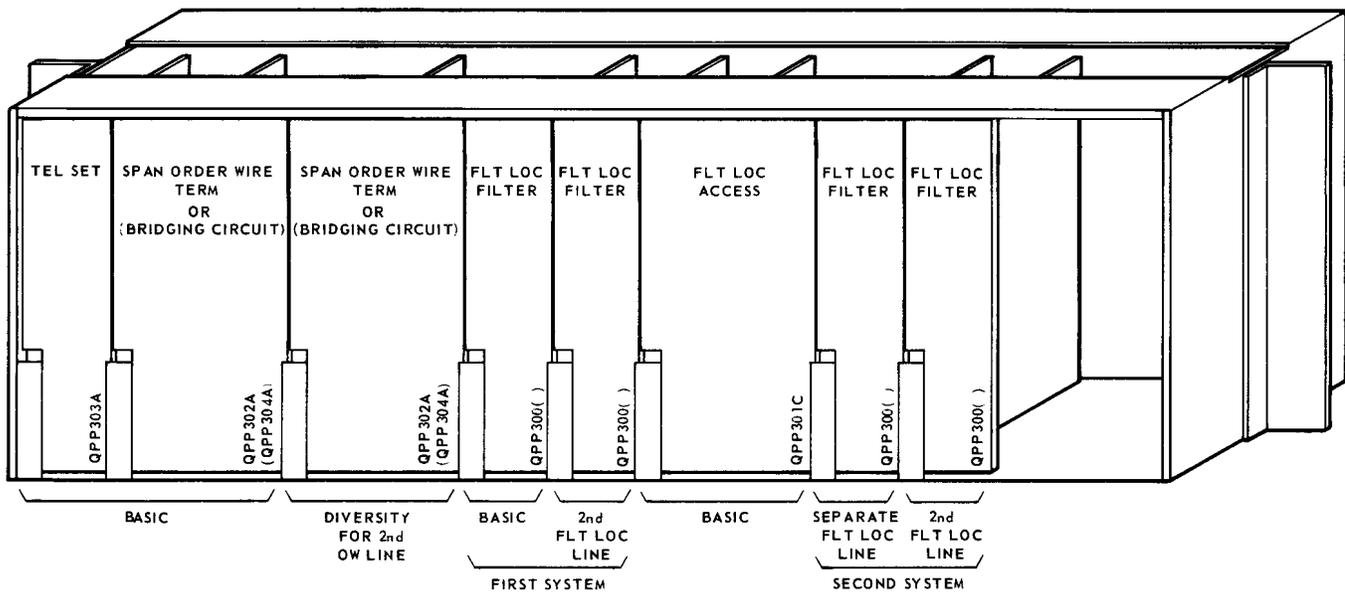

Fig. 1 – Order-Wire and Fault-Locate Shelf Layout
2.01 The shelf (Fig. 1) is 19 inches (483 mm) wide, 5.3 inches (135 mm) high, and 13.7 inches (350 mm) deep. It can therefore be mounted on standard 19-inch racks. The shelf consists of sheet steel sideplates, with extruded aluminum members on the top and bottom. The extruded members support nylon sliders which guide the plug-in circuit packs into the connectors mounted at the rear of the shelf.